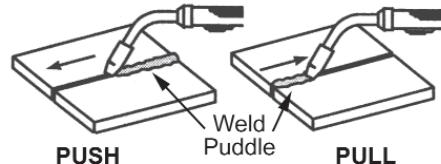

Figure 11. Travel Direction
1. TRAVEL DIRECTION is the direction the gun is moved along the weld joint in relation to the weld puddle. The gun is either PUSHED (see Figure 11) into the weld puddle or PULLED away from the weld puddle.